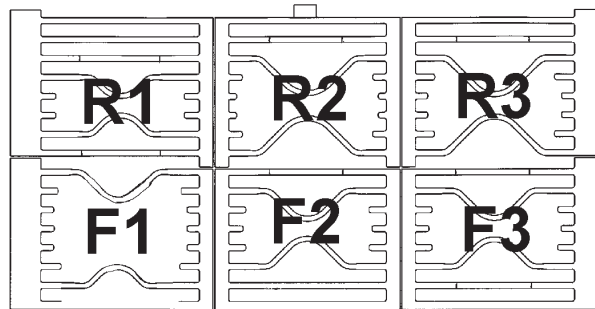

Fig. 8A
5. Fit the pan supports in the following order. The pan supports are marked on the underside to correspond to the markings below. The pan supports must locate in the recesses in the hotplate casting. (See Fig. 8A & 8B)